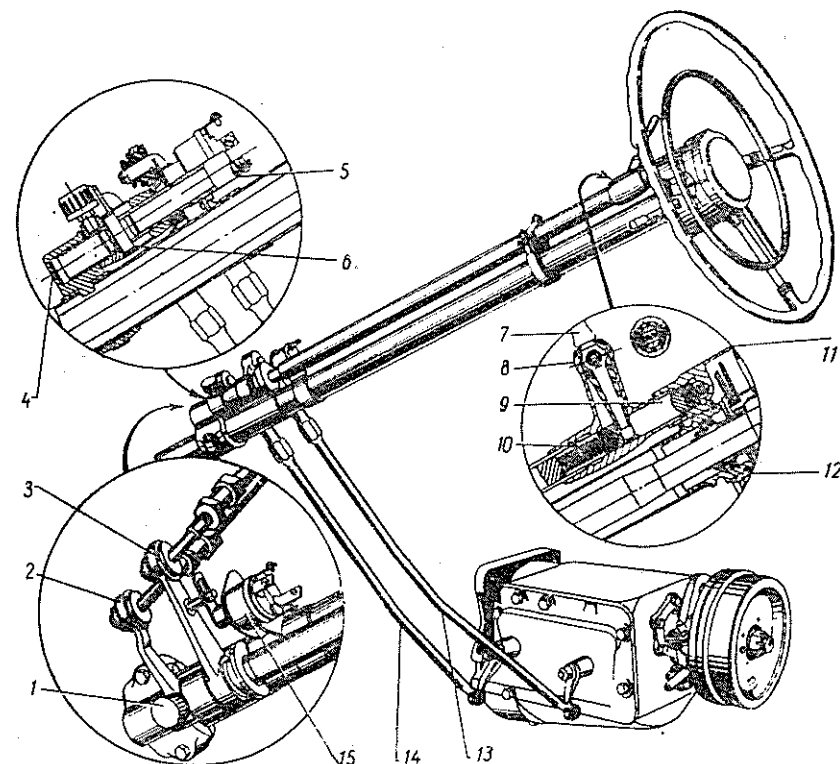

Fig. 23. Transmission Control Mechanism
1. Engage the 3rd speed and make sure the gear shift lever 7 (Fig. 23) is in the horizontal position. If necessary, change the length of rod 14 by rotating its endpiece.